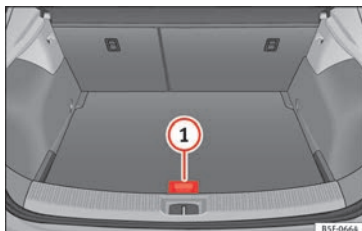

Fig. 179 Luggage compartment: variable floor
- Lift the variable floor using handle »» Fig. 179 ①, pull it back and push the backrest of the rear seat until the movable part of the floor is resting on it.